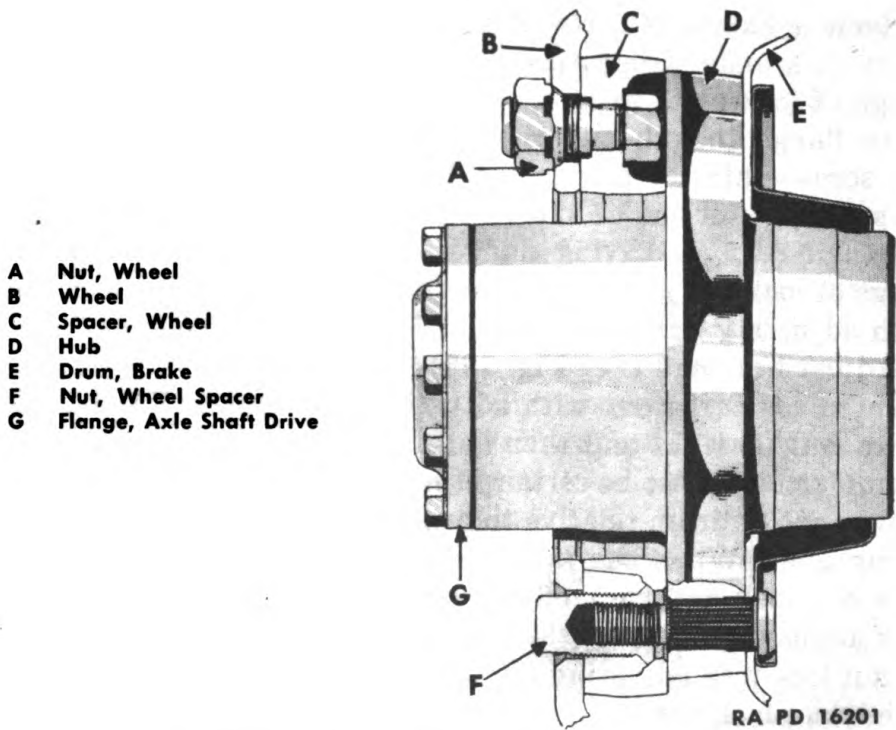

Figure 183—Rear Wheel and Wheel Spacer Installations
c. Rear Wheel Bolt Tightening Procedure**(1) Tighten wheel spacer bolts (See Fig. 183)**